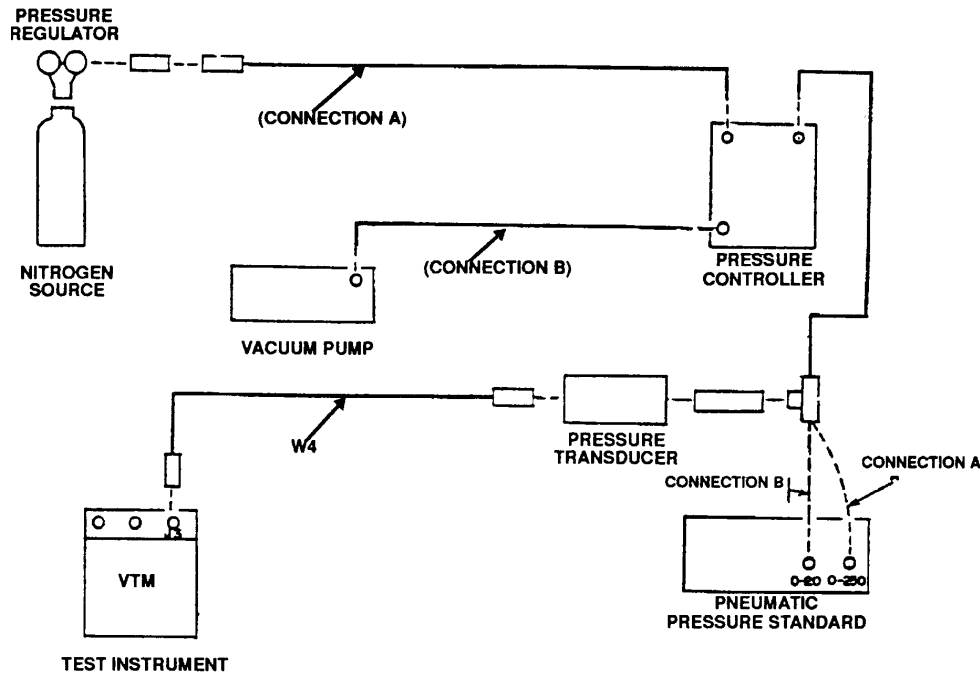

Figure 6. Pressure and vacuum (25 psi) - equipment setup.
- (2) Set **TEST SELECT** switches to **50**.
- (3) Operate hydraulic pressure standard to apply 1000 psi and return to 0 three times.
- (4) With pressure at 0, press and hold **TEST** pushbutton until **CAL** appears on VTM display. Release **TEST** pushbutton.
- (5) Wait for offset value to appear on display. Offset value will be between -150 and +150.
- (6) Press and release **TEST** pushbutton.
- (7) Operate hydraulic pressure standard to apply 1000 psi. VTM will indicate between 960 and 1040.
- (8) Operate hydraulic pressure standard to apply 200 psi. VTM will indicate between 180 and 220.
- (9) Connect equipment as shown in CONNECTION A (fig. 6), using pressure transducer TK22, -30 to +25 psig.
- (1) Connect equipment as shown in CONNECTION B (fig. 6), using pressure transducer TK22 -30 to +25 psig.
- (2) Set **TEST SELECT** switches to **45**.
- (3) Operate vacuum pump and adjust pressure controller and pneumatic pressure standard controls for 18 inHg indication and back to atmospheric pressure three times.